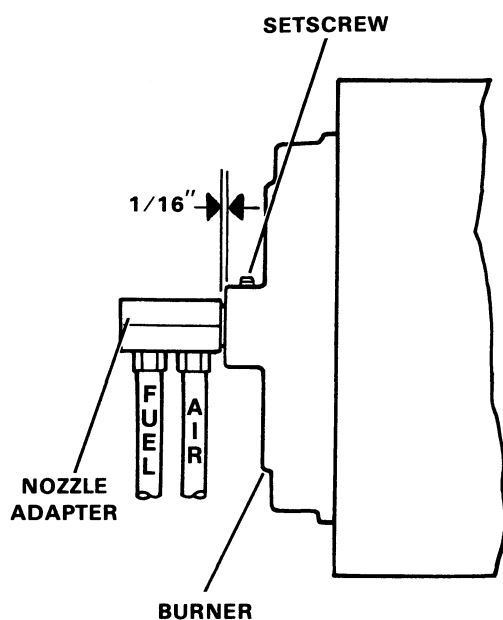

FIG. 11
2. Loosen the setscrew in the burner casting which holds the nozzle adapter in place. (Fig. 11)
3. Pull the nozzle back one notch (about $1/16"$). See (Fig. 11)